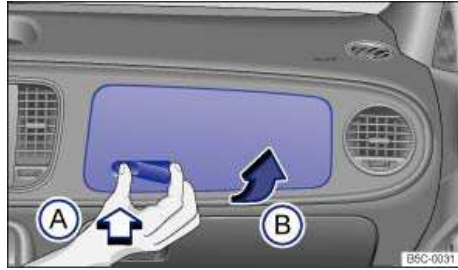

Fig. 103 On the passenger side: Opening the upper glove compartment (if equipped).
- To *open*, press on the depression in the opening handle ⇒ fig. 103 (arrow (A)). Then lift the glove compartment lid upward using the handle (arrow (B)).